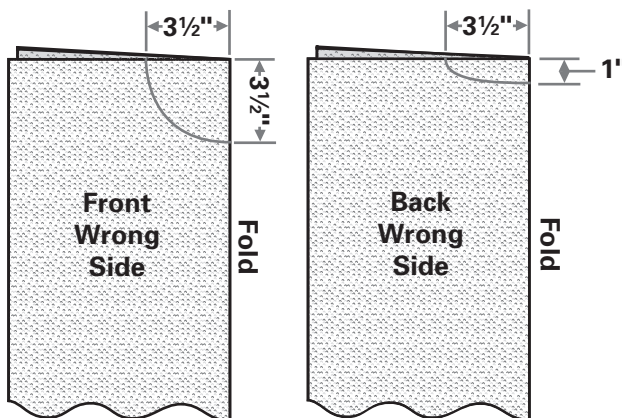

Fig. 4-3
- Fold the front and back rectangles in half lengthwise with right sides facing. Use the fabric marker to draw the cutting lines for the neckline as shown. Cut along the lines. Staystitch each neck edge from the center to the shoulder edge. (Fig. 4-3)